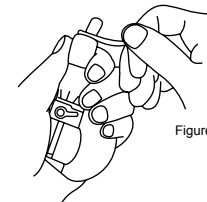

Figure 3
- When the alignment error is around ± 0.01 mm or more (Figure 3)